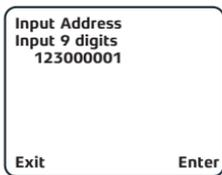

Figure 15
- i. Select 'Input Address' and press **Enter** (fig 15).